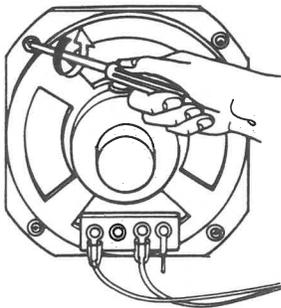

Figure 23
- Remove the 4 screws holding Front Cabinet and pull speaker backward. (Refer to figure 23)